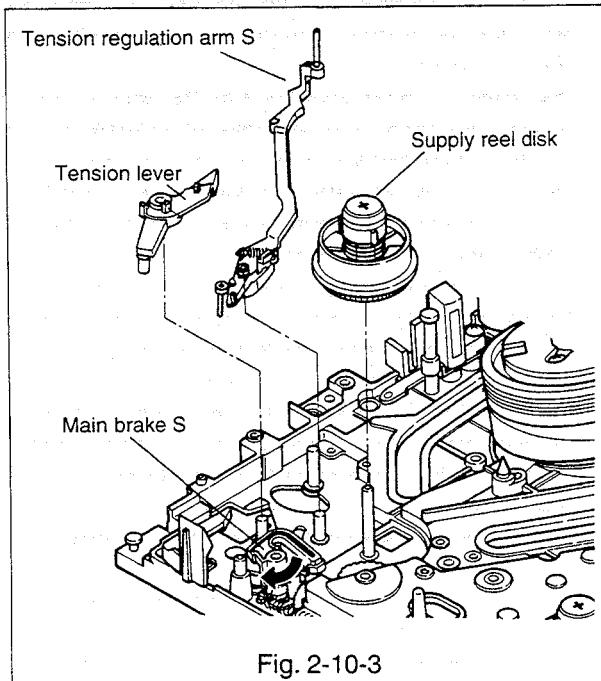

Fig. 2-10-3
- H. Raise the tension lever avoiding the main brake S and remove the lever from the shaft.(Refer to Fig. 2-10-3.)
- J. While turning the main brake S slightly clockwise to separate the brake from the supply reel disk, and raise the supply reel disk to remove it from the shaft.(Refer to Fig. 2-10-3.)
- I. Separate the main brake S and the tension regulation arm S from the supply reel disk and make certain that the disk turns freely.(Refer to Fig. 2-10-3.)